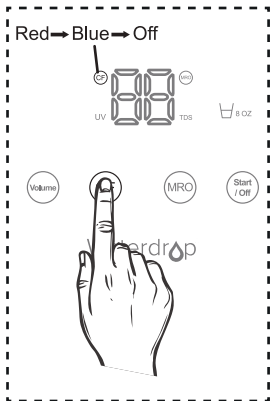

Figure 2.3
● Press and hold the " (CF) " filter life reset button for 5 seconds until the system beeps. [Figure 2.3]